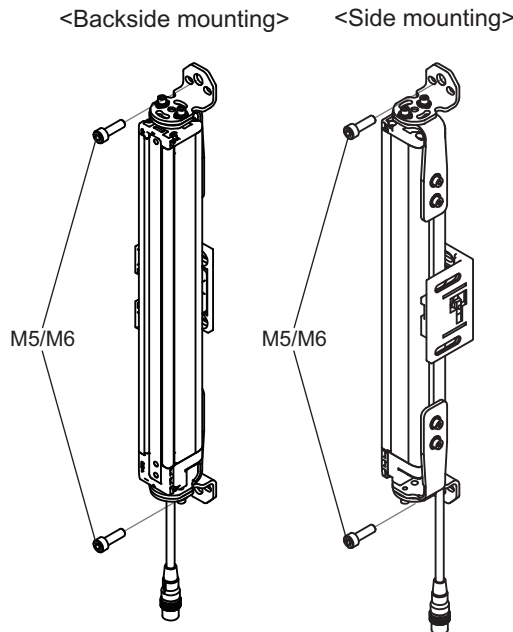

Fig. 7
- Securely tighten screws to fix the Top/Bottom Bracket to the mounting position of the wall surface. (Fig. 7)